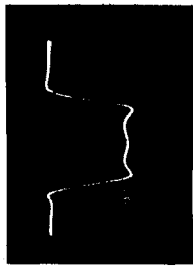

Figure 2
4. Remove the fixed frequency signal from the grid of V-20 and connect the output of the sweep generator to the grid of V-20. Adjust L-200 and L-211 for a symmetrical curve around 24.8 Mc as shown in Fig. 2.